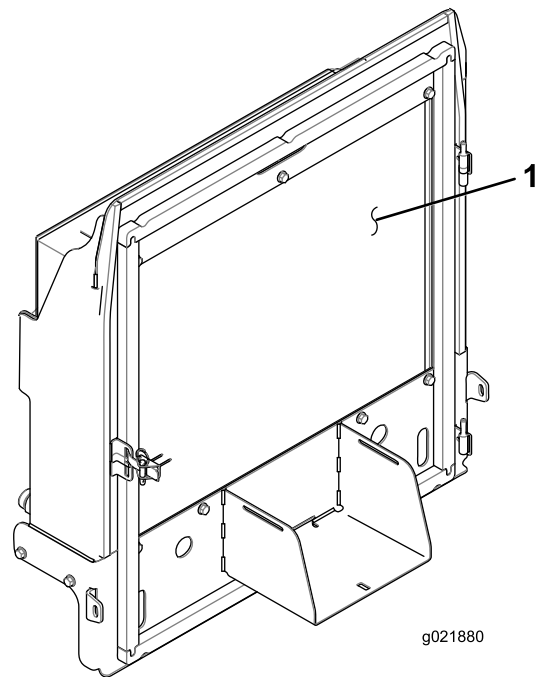

Figure 94
4. Thoroughly clean both sides of the radiator/oil cooler with compressed air (Figure 94).